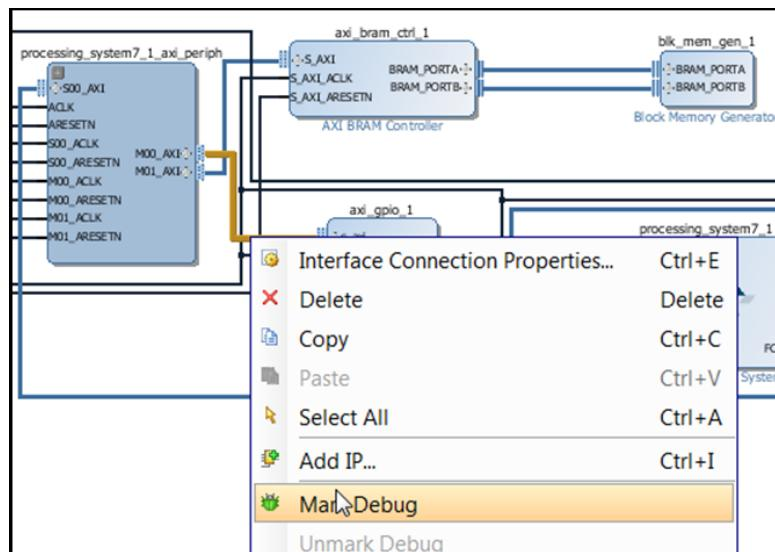

Figure 20: Mark Debug Option
- To debug the interface between the AXI Interconnect IP named `processing_system7_1_axi_periph` and the GPIO core (named `axi_gpio_1`), select the interface, then right-click and select **Mark Debug** (Figure 20).